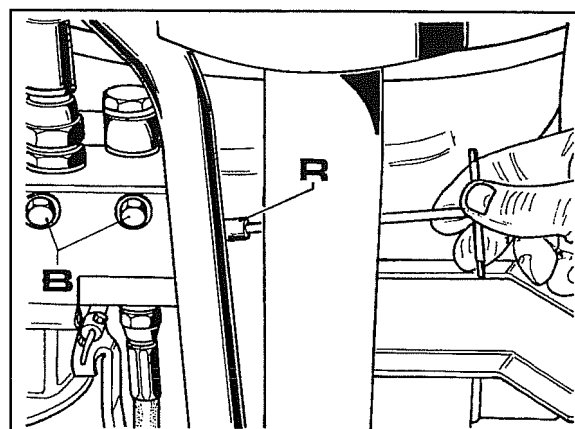

Fig. 2
2. To remove this valve, remove the two screws **B** fixing the valve ass'y located under the ass'y, see Fig.2.